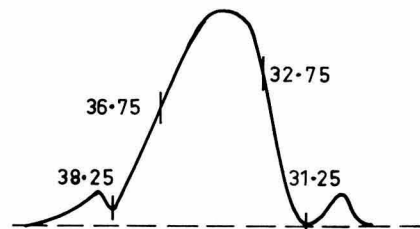

FIG. 12.
10. Remove detector probe and connect C. R. O. to video amplifier output at the junction of R81 (4.7K) and peaking coil L15. Adjust IFT 2 (bottom core) and IFT 3 for the overall bandpass curve as in Fig. 12. When tuning IFT 3, use the peak nearest the top of the can.
12. Re-connect C. R. O. to video amplifier output and re-check overall bandpass as shown in Fig. 12.